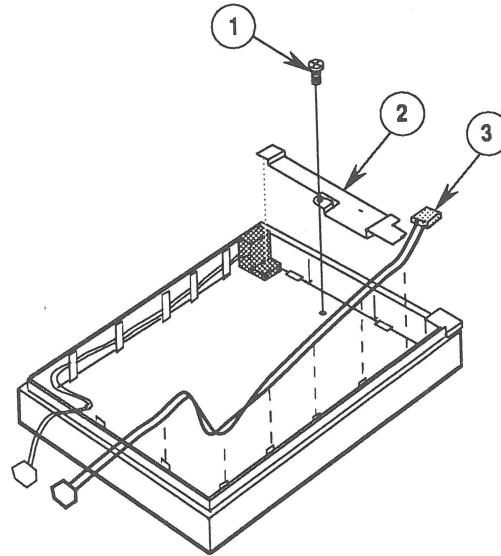

FIGURE 19
2. Remove the mounting screw (Figure 19, #1) that secures the metal bracket (Figure 19, #2) to the case top. Remove the metal bracket.
3. Lift the eject switch assembly (Figure 19, #3) off the holding tabs.
1. Position the eject switch (Figure 19, #3) over the holding tabs.
2. Replace the metal bracket (Figure 19, #2) on the case top, and replace the mounting screw (Figure 19, #1).